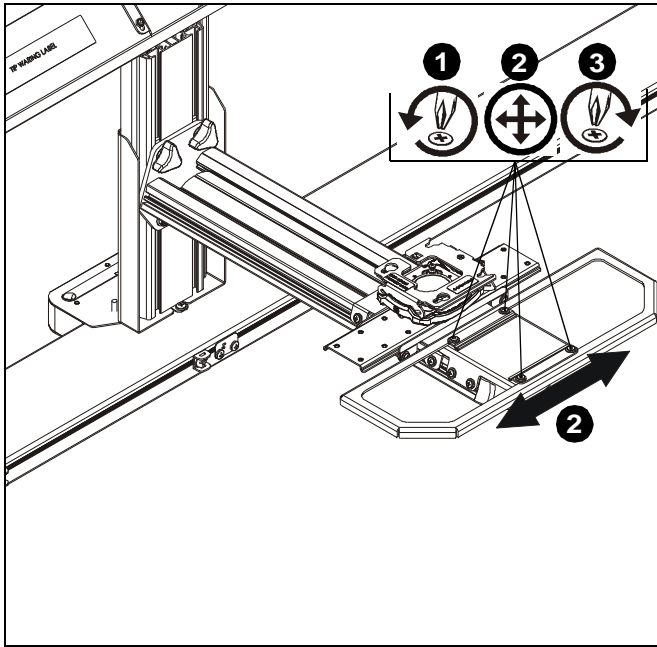

Figure 5
1. Loosen four screws holding guard bracket (B) to guard base (A). (See Figure 5)
2. Adjust guard bracket lateral position as desired. (See Figure 5)
3. Tighten four screws holding guard bracket (B) to guard base (A) when desired position is achieved. (See Figure 5)